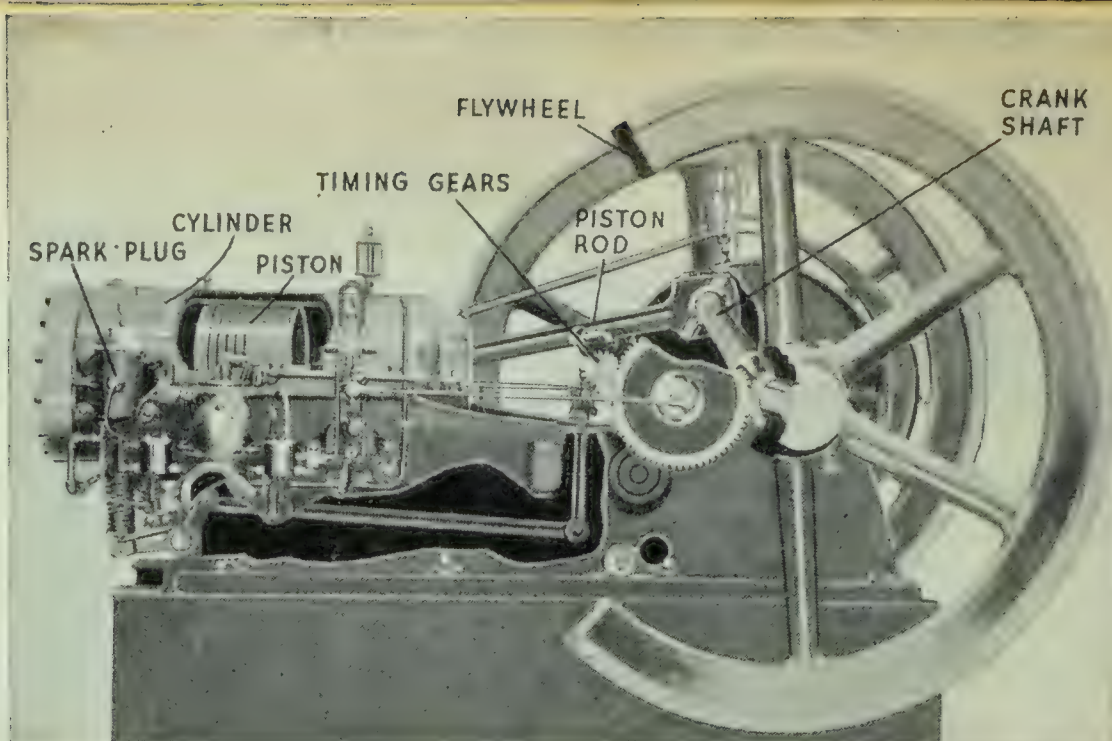

FIG. 358. The parts of a simple one-cylinder gasoline engine
**H**OW DOES THE ENERGY OF BURNING FUEL RUN A GASOLINE ENGINE? Like a steam engine, a simple gasoline engine has a cylinder, piston, crank, crank shaft, eccentrics, and a flywheel. Find these parts in Figure 358. In addition, the gasoline engine needs two parts that a steam engine does not have: (1) It must have a way to mix the gasoline with the air. (2) It must have a way to ignite the gasoline at the right time. The *carburetor* mixes air and gasoline in the right proportions, and an electric spark sets the mixture on fire.